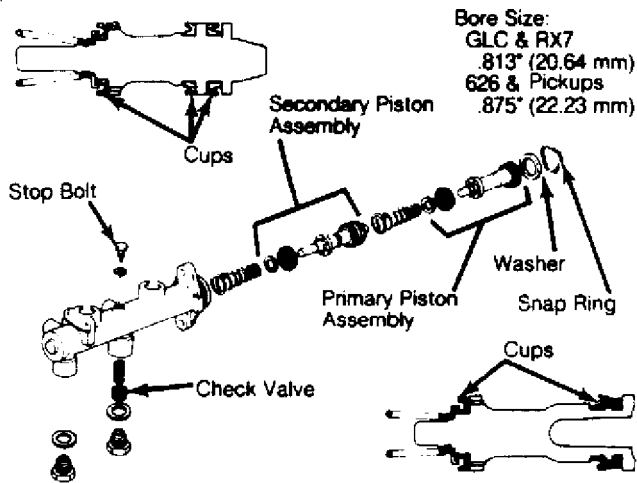

Fig. 7: Exploded View of Typical Master Cylinder
1) Thoroughly clean outside of master cylinder, and pour out any remaining brake fluid. If equipped, remove reservoir and dust boot. Depress primary piston assembly. See Fig. 7.